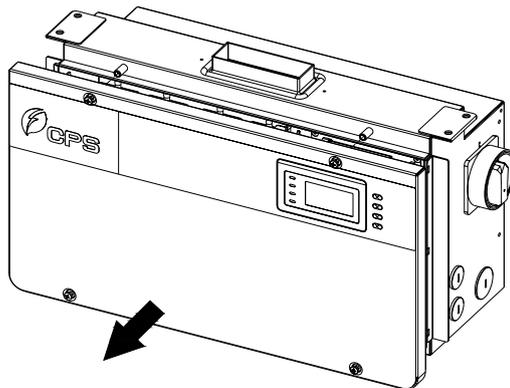

Figure 3-16 Take off the cover of the wiring box
(1) Use a 3mm (0.12in.) Hex screwdriver to remove the 4 screws on the wiring box and take off the cover. (see Figure 3-16)